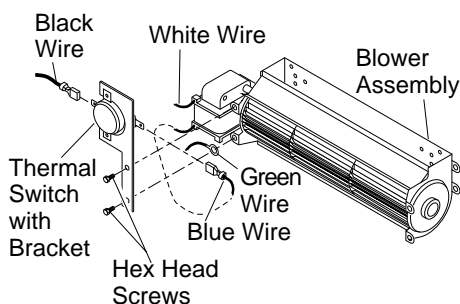

Figure 18 - Attaching Thermal Switch to DA3610T Thermostatically Controlled Blower Accessory
1. Remove the two hex head screws on the blower assembly as shown in Figure 18.